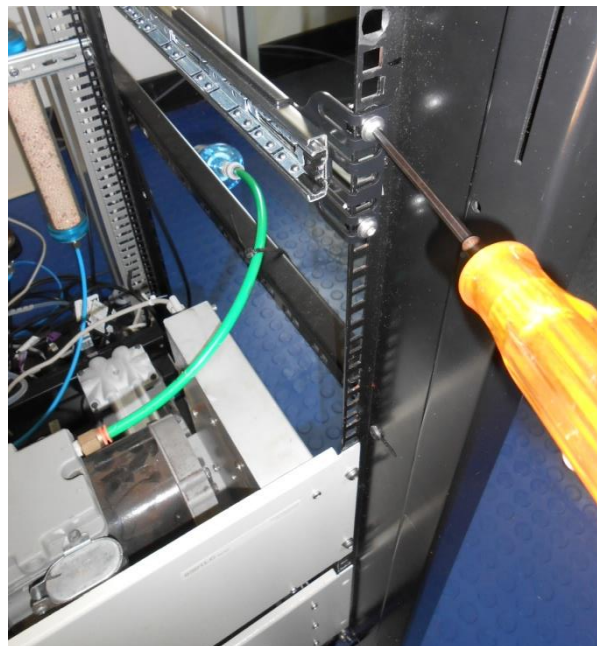

Figure 154 – Attach Slides to Front of Rack
7. Refer to Figure 154. Install the two assembled outer slide rails onto the left and right side of the rack securely with M6 bolts; washer and locknuts/cage nuts.